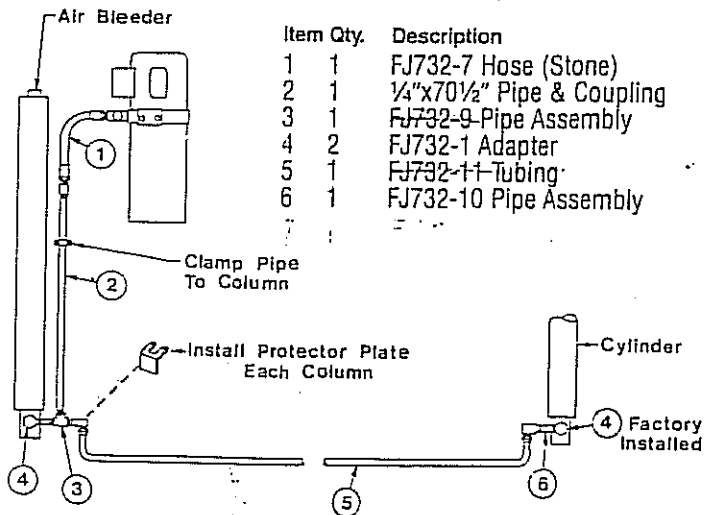

FIG. 10
13. PIPING: Install piping and hoses, Fig. 10. Inspect all threads before assembly. Use premium oil resistant pipe thread sealant. **DO NOT** use teflon tape as it clogs strainer. NOTE: Install pipe clamps and brackets, provided.
15. OIL FILLING & BLEEDING: System capacity is (14) quarts of Dexron II ATF. Remove fill-breather cap and vent plug. Pour in (10) qts. Start unit by pushbutton raising lift about 2 ft. Open cylinder bleeders, see Fig. 10. Close when oil streams. LOWER lift by releasing locking devices, then pulling down on lowering valve handle. Add fluid until it comes out vent hole. CAUTION: If fill cap is lost or broken, order replacement. **DO NOT** substitute solid plug.